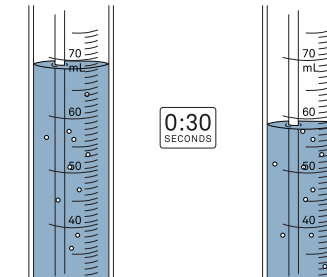

Figure 4 Observing infiltration volume at an example timing interval
5. Record the water volume in the reservoir at regular time intervals as the water infiltrates (Figure 4).